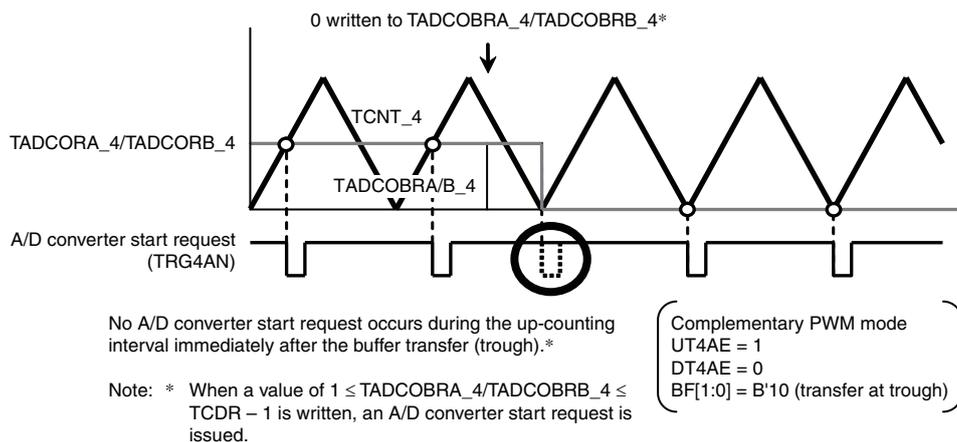

Figure 2.1 A/D Converter Start Request Operation when 0 Is Written to TADCOBRA_4/TADCOBRB_4
- When TADCOBRA_4/TADCOBRB_4 is set to 0 and the UT4AE or UT4BE bit in TADCR is set to 1, and then buffer transfer takes place at the trough of TCNT_4, no A/D converter start request occurs during the up-counting interval immediately after the transfer (figure 2.1).